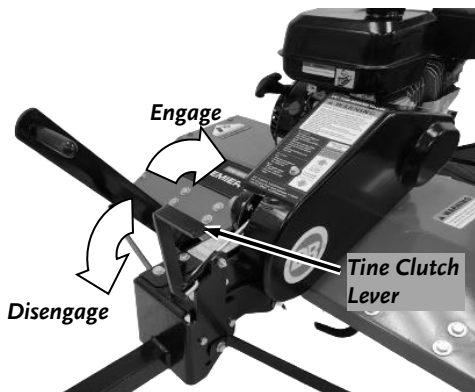

Figure 12
- Push the Tine Clutch Lever towards the back of the machine to engage the Tines (**Figure 12**).